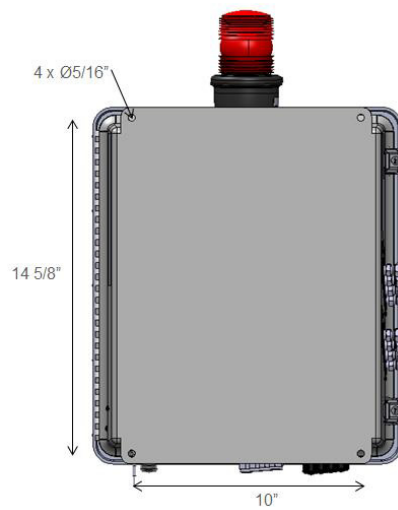

Fig. 10 Rear of device
- With the appropriate hardware. Make sure the hardware is suitable for the mounting surface and can withstand 70 lb (31,7 kg) without loosening or causing damage to the hardware or mounting surface. Use all four mounting holes provided on the device (Fig. 10).